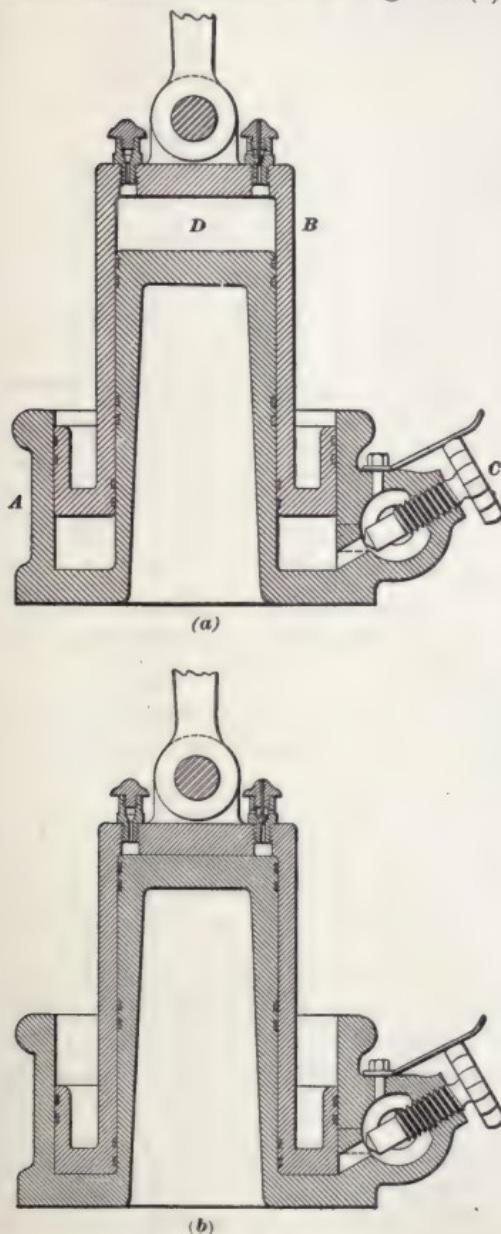

FIG. 21.
**62. The Dashpot.**—The pressure of the atmosphere is utilized in Corliss engines to close the steam valves rapidly. For this purpose a so-called **dashpot** is used. The dashpot of a Bullock-Corliss engine is shown in two positions in Fig. 21. It consists of the base  $A$ , which is fastened to the floor, and a plunger  $B$  pivoted to the end of a crank-arm keyed to the stem of the steam valve. The base is accurately turned and bored to fit the plunger; packing rings are fitted to both the plunger and the base in order to make an air-tight joint.
by means of the valve *C*. In operation, the plunger is first in the position shown in Fig. 21 (*b*). It is then picked up by the valve gear of the engine and drawn up until it is in the position shown in Fig. 21 (*a*).
drawn up until it is in the position shown in Fig. 21 (*a*). The large piston on the lower end of the plunger is in communication with the atmosphere through the valve *C*, and hence the pressure of the atmosphere on both sides of the piston is equal. The upper part of the plunger, however, has an equal pressure on both its sides only when it is down, as in Fig. 21 (*b*). When it is drawn up, the air in the space *D* expands and a partial vacuum is formed. The valve gear next releases the plunger, and as the atmospheric pressure is much greater than the pressure within *D*, the plunger rapidly descends. During its descent, the large piston at the end of the plunger gradually